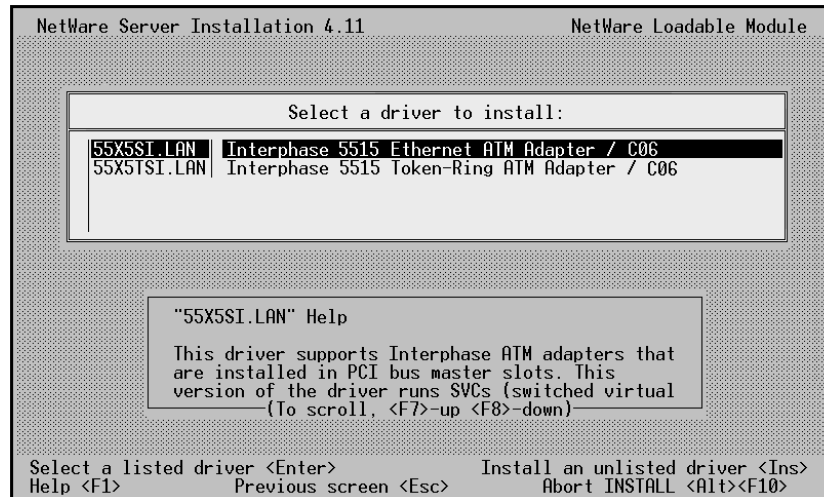

Figure 9-1. Selecting a Driver
5. If you selected to load the driver for another client, the Select a Driver dialog box reappears (shown in Figure 9-1 on page 107). This time the driver is obtained from your hard disk instead of the CD-ROM. To continue: